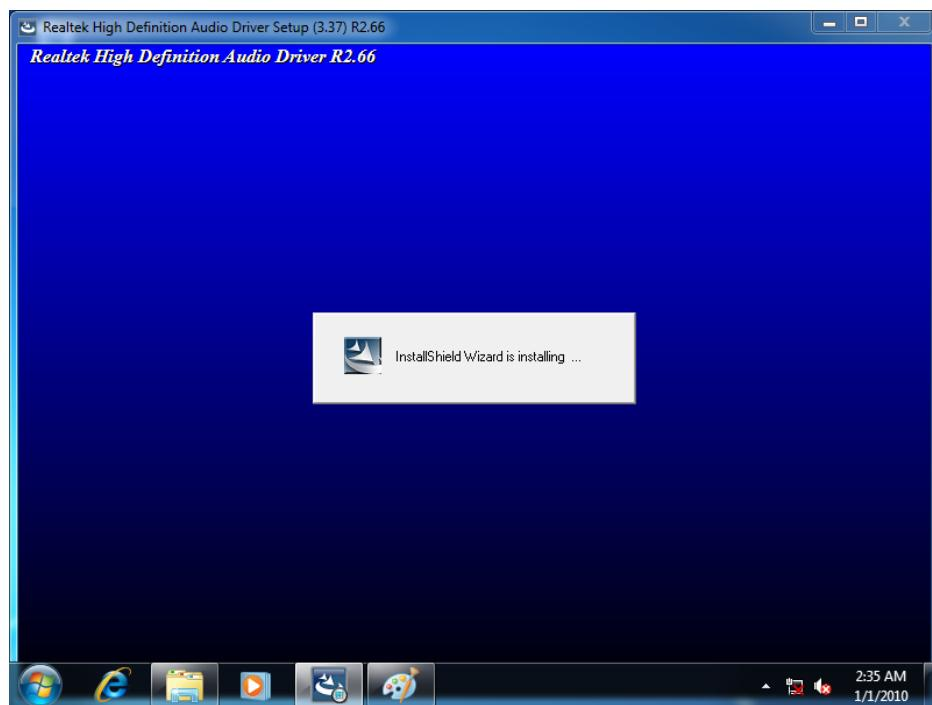

Figure 6-26: Audio Driver Installation
Step 7: The program begins to install. See **Figure 6-26**.